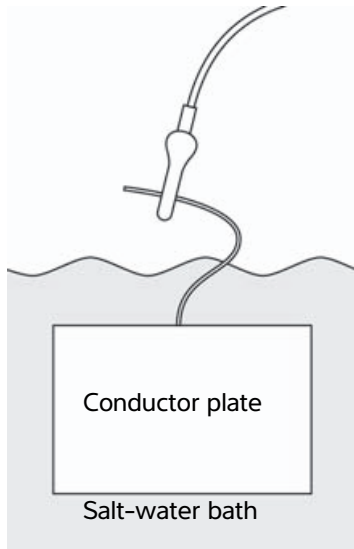

Figure 5-14 Conductor plate attachment
- a Connect the black lead to the conductor plate in the salt-water bath as shown in Figure 5-14.